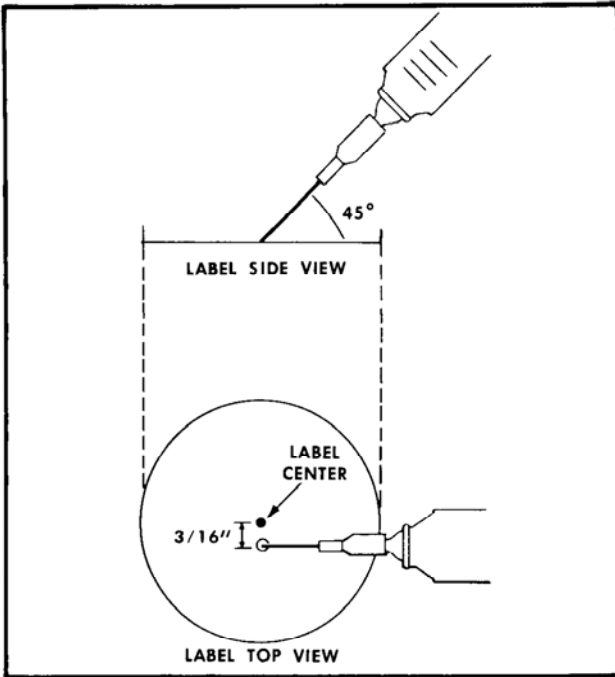

Fig. 4-1. Oiling the fan with a hypodermic.
**Fan Oiling.** During periodic servicing, the fan motor should be lubricated with a few drops of light machine oil (Anderol L826 available from Lehigh Company or Rotan Distributors is recommended). An industrial hypodermic needle and syringe is used to insert the oil through the rubber seal, as shown in Fig. 4-1. Hold the syringe at a 45° angle, pierce the rubber seal, then insert the needle about 1/4 inch and depress the plunger far enough to inject 3 or 4 drops of oil into the bearing. If a syringe and needle cannot be obtained locally, they may be ordered from Tektronix Inc. (Tektronix Part No. 003-0282-00 for the syringe; 003-0285-00 for the needle).